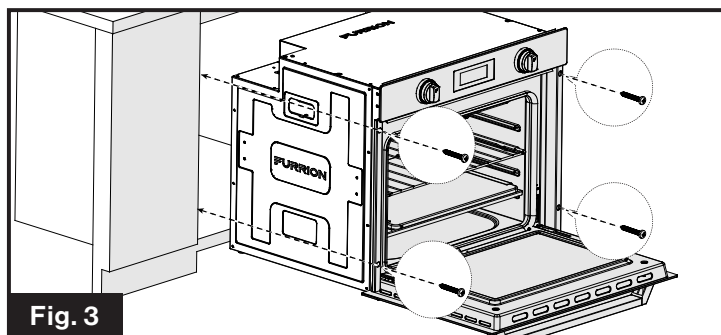

Fig. 3
3. Open the oven door and securely fasten the oven in place with four screws (not provided). (Fig. 3)